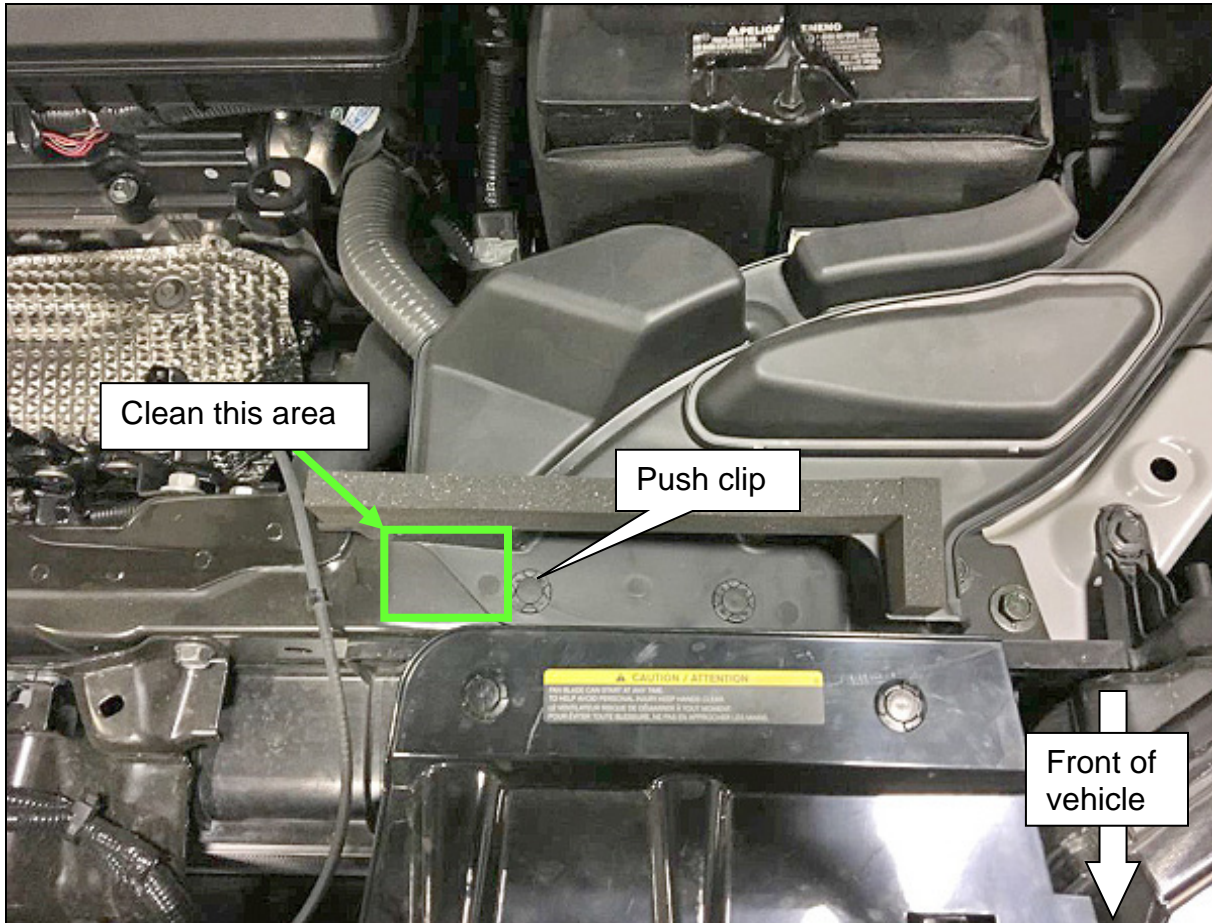

Figure 2
5. Clean the area shown highlighted in Figure 2 with 50% isopropyl alcohol where the foam block will be attached.